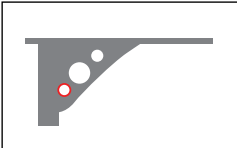
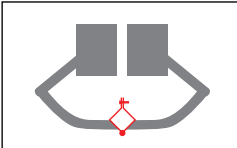

Figure 2
Figure 3
- Align the Bracket Bolt with the lowest of the three Gusset holes (fig. 2) on your Heat Press Caddie™ or Air Fusion™. Close the Arm Assembly around the stand until the Bracket Bolt passes through the Gusset Hole and the hole of the shelving bracket. (fig. 3)